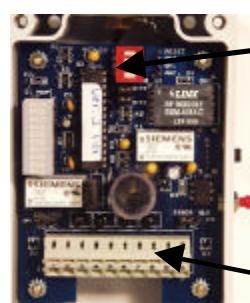

figure 3
- To attach the 12VDC power source, locate the terminal port on the Single Port Receiver. (see fig.3). Using a small flat head screwdriver, press on the arm of the jack labeled “-“ and insert the negative lead into the jack. Do the same for the jack labeled “+“ and insert the positive lead into the jack. On the small 12VDC power supply furnished by General Sensors, Inc., the terminal labeled “1” is +12VDC, terminal “4” is the negative lead. Terminal “2” is ground from the 110VAC if you wish to connect ground to the Single Port Receiver.
and are numbered 1 through 10 (see **fig.3**).